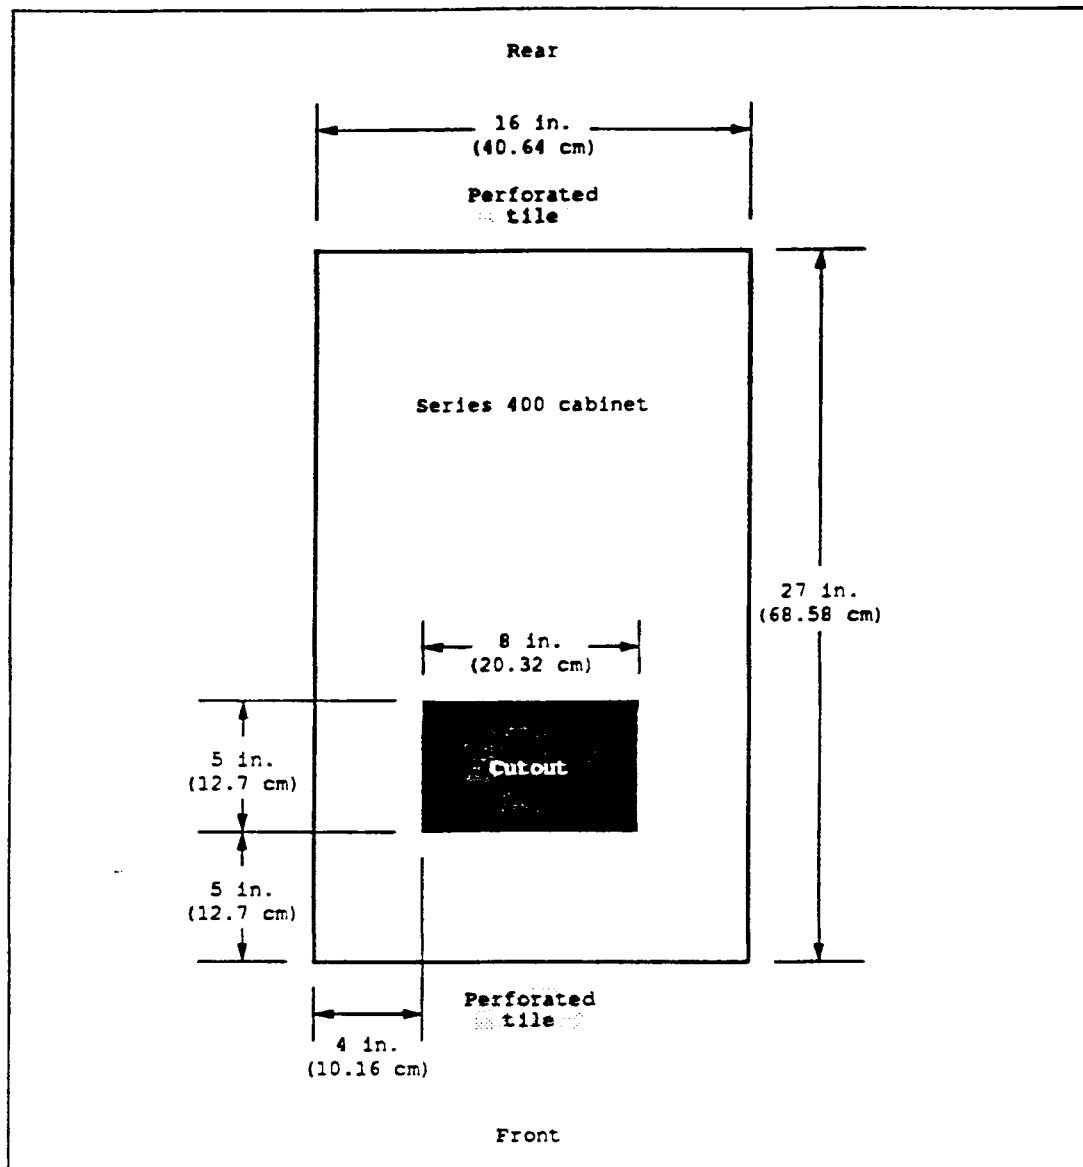

Figure 1.4 - Floor Tile Requirements for R1000 Series 400S Installation (Top View)
- 1. Position the 400S system cabinet in the computer area according to the layout plan established during the pre-site planning stage. (Refer to Figure 1.4.)